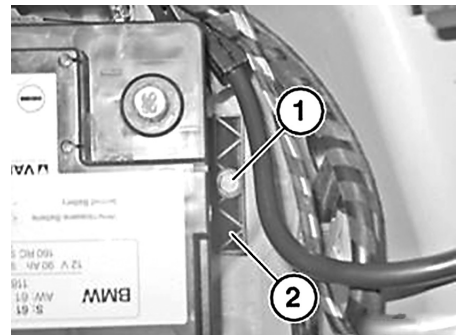

Fig. 4 Battery hold down fastener location
9. Release screw (1) and remove battery holder (2), **Fig. 4**.